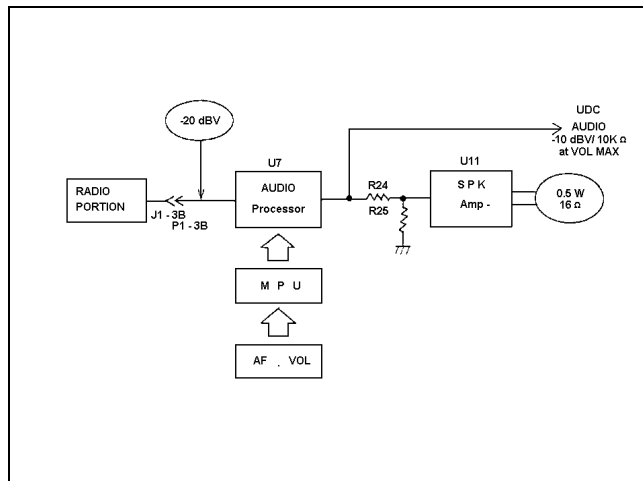

Figure 10 - Receiver Audio Output
- b. Control Board: The receive RF signal comes into P1, Pin 3B. The signal is then applied through a 14 dB amplifier, 300-3000Hz BPF, De-emphasis and a 44 dB volume level control. The signal is then amplified by SPK amplifier U11 to drive the speaker. Typical levels needed to obtain a 1 kHz, 0.5 watt receive rated audio output are shown in Figure 10.